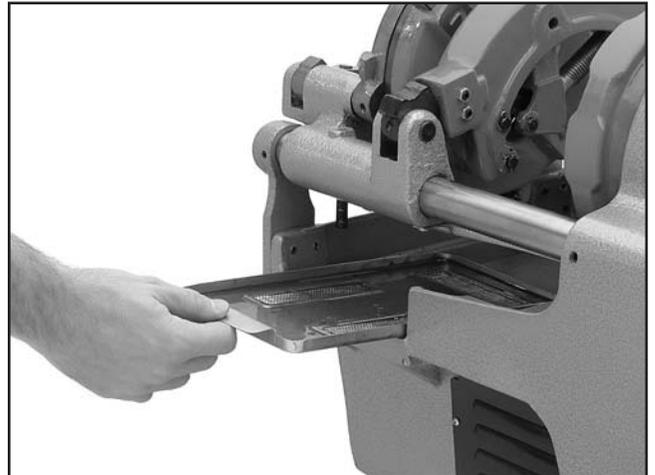

Figure 16. Removing drip tray.
3. Remove the tray (**Figure 16**), properly dispose of chips/shavings, and clean the tray.